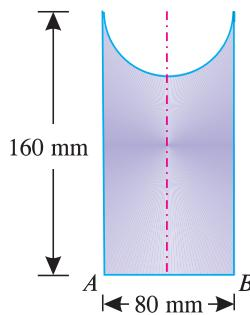

Fig. 6.33.
4. A hemisphere of radius 80 mm is cut out from a right circular cylinder of diameter 80 mm and height 160 mm as shown in Fig. 6.33. Find the centre of gravity of the body from the base AB.    [Ans. 77.2 mm]